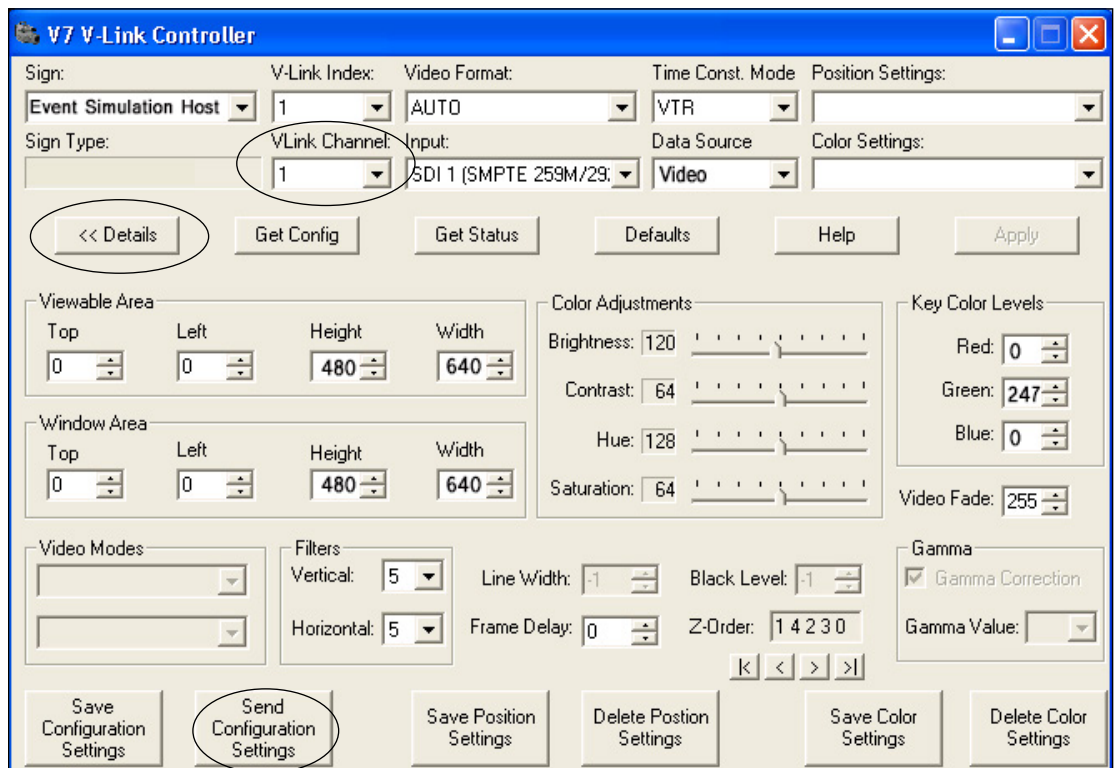

Figure 41: Configuration Settings
- c. Confirm the **VLink Channel** is set to 1 and click **Details**. Refer to **Figure 41**.
- d. Click **Send Configuration Settings** on the bottom-left. Refer to **Figure 41**.